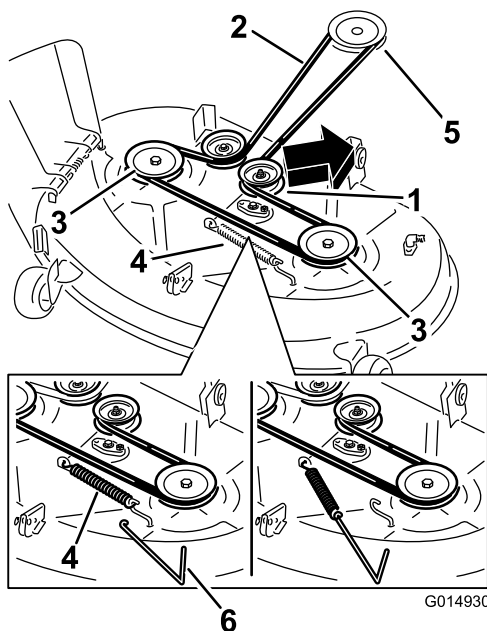
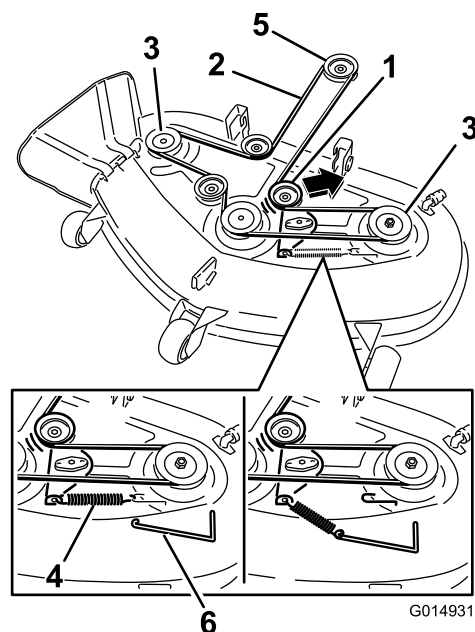

Figure 58
Figure 59
6. Using a spring-removal tool, (Toro Part No. 92-5771), remove the idler spring from the deck hook to remove tension on the idler pulley, and roll the belt off the pulleys (Figure 58 and Figure 59).
7. Route the new belt around the engine pulley and mower pulleys (Figure 59).
8. Using a spring-removal tool, install the idler spring over the deck hook, and place tension on the idler pulley and mower belt (Figure 58 and Figure 59).